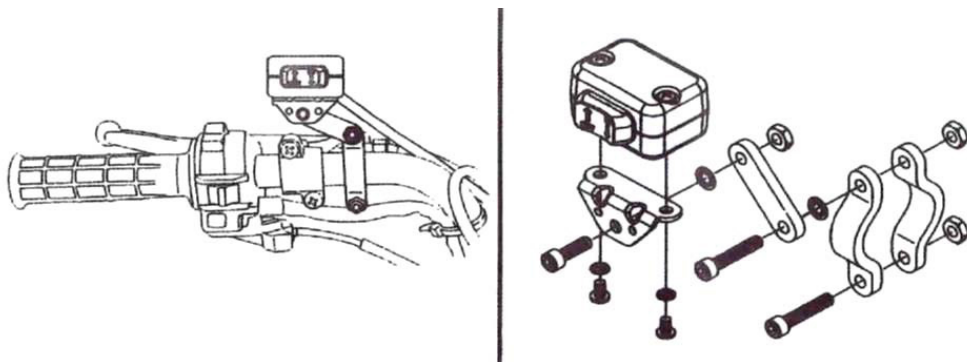

Fig 3. Handlebar switch attachment
- Attach the handlebar rocker switch to a convenient location (left handlebar is recommended – see Fig 3) and connect the two control wires to the corresponding bullet terminals on the end of the short trailing leads from the control box.